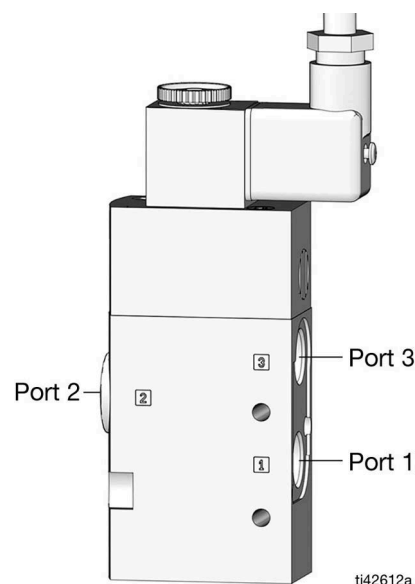

FIG. 4
2. Connect Port 1 to the air supply (FIG. 4).
3. Connect Port 2 to the downstream controlled equipment. (FIG. 4).
4. Install the muffler into Port 3. Port 3 is an exhaust port. Do not plug the port because when the air control solenoid valve deactivates under alarm conditions, the downstream air pressure vents through Port 3 (FIG. 4).